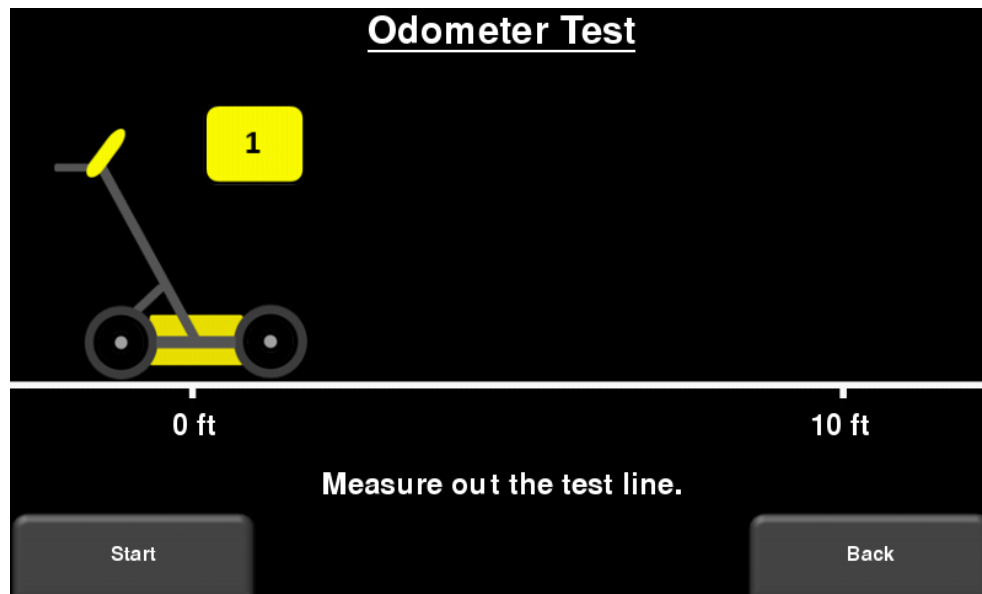
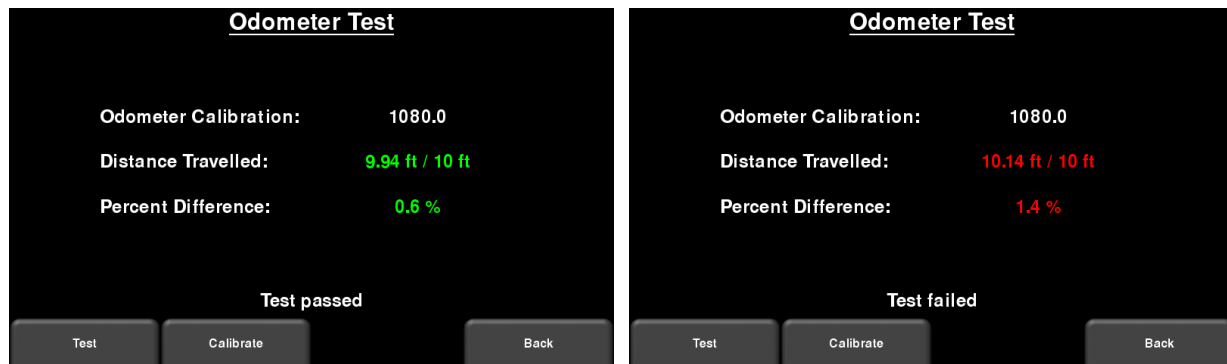

Figure 5-36: Ready to calibrate odometer a distance of 10 feet
Figure 5-37: Odometer Test passed on left, failed on the right
- **Odometer Test** – This test verifies the odometer is calibrated properly (Figure 5-36). It involves moving the system a set distance (5m or 10', depending on units used), and comparing the value obtained to a known value. Press **Start** to begin and then press **Finish** when you've moved that distance. It will display a pass or fail, along with a percentage difference from the known value (Figure 5-37).